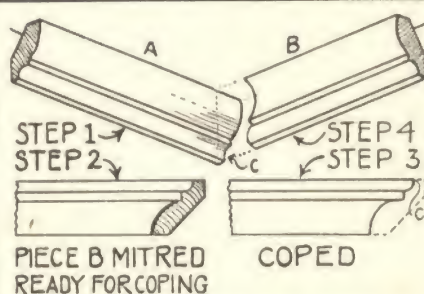

Fig. 34
**Coped Joint**—(Fig. 34) is used in fitting picture, cornice or other moulding. To make this joint, moulding A of step 1 is cut to length with square ends and nailed